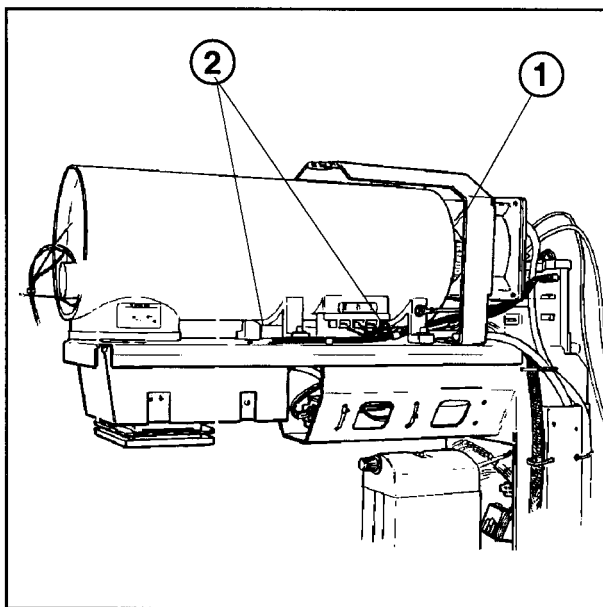

Fig. 1
- Remove fan, with holder (1/Fig. 1).
- Loosen the four screws (2/Fig. 1).